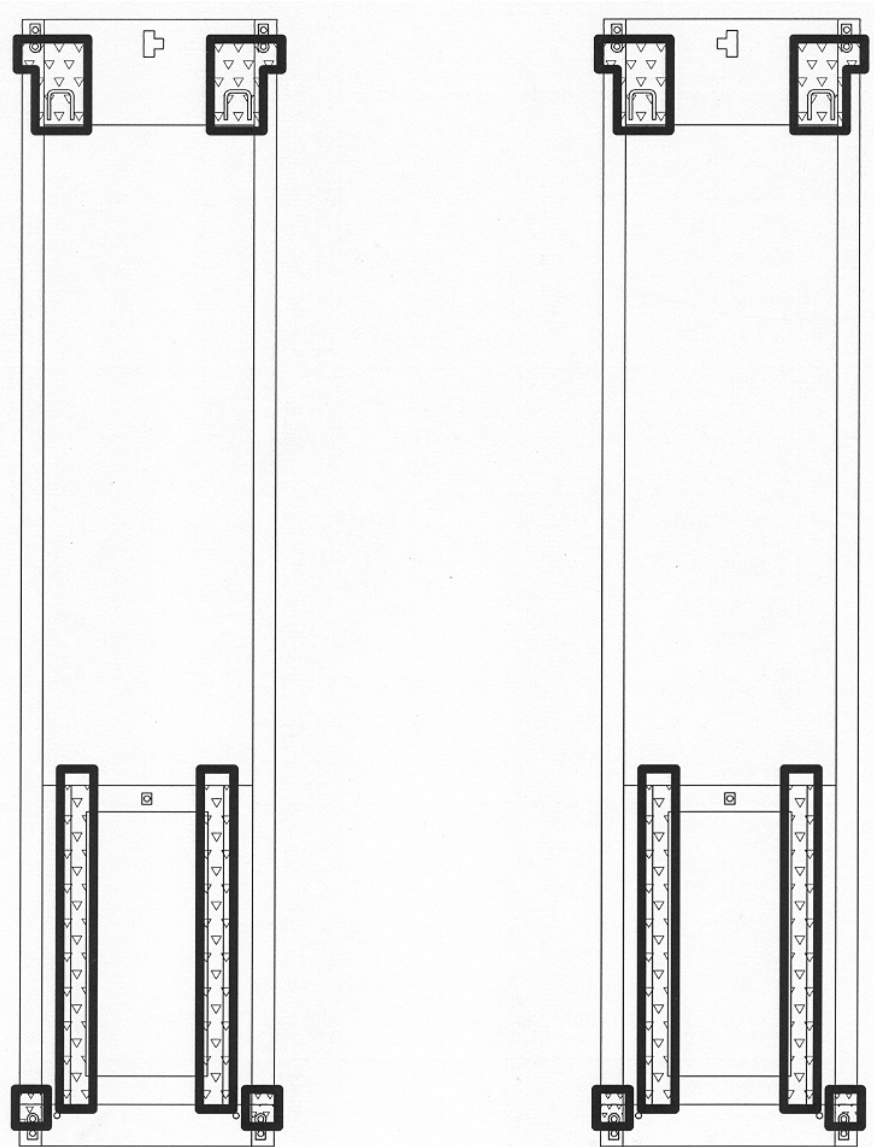

Figure 21 - Shimming
2. Level the baseframes using the 5/8" leveling bolts provided at each of the four (4) corners.
3. Use shims provided to support under glide block area of baseframe and under front hinges. See **Figure 21**.